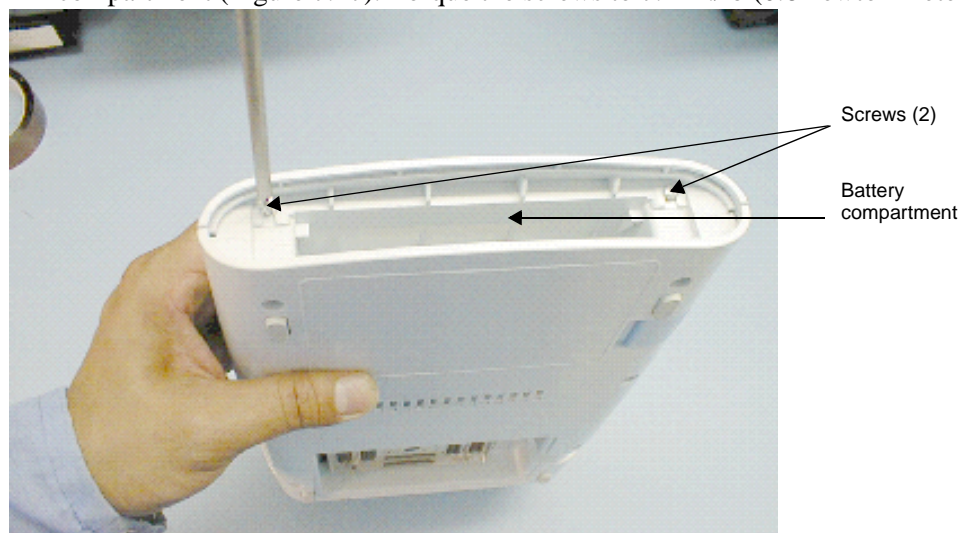

Figure 7.17 Replacing the Control Panel
12. Set the Control Panel into place and replace the two screws inside the battery compartment (Figure 7.17). Torque the screws to 7.1 in./lb (0.8 newton meter).